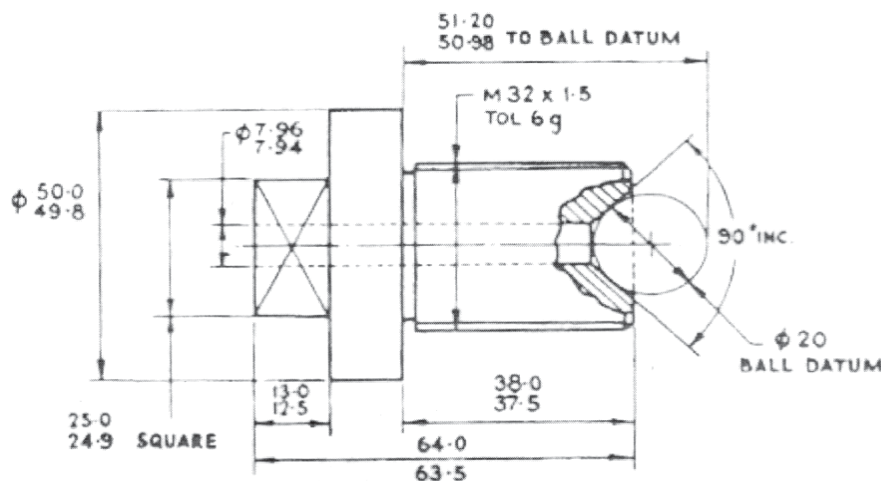

Fig. 1
- Q8)** Prepare the process sheet for the component as shown in fig. 1. It requires a batch of 1000 Nos. The process sheet must contain detailed manufacturing plan with operation sequence, Equipment, tooling, process parameters and sample calculation of operation time. [18]